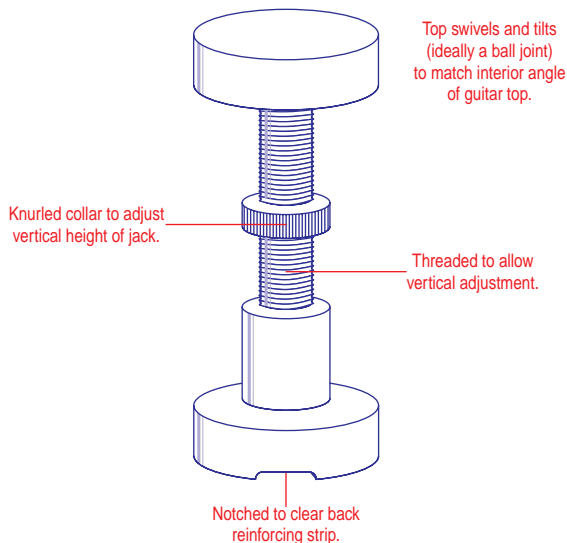

Figure 3 - JACK-Internal jack used to prevent movement of top during critical routing of saddle slot prior to pickup installation.
- Under string tension, lay a straightedge across the top behind the bridge. Measure the "belly up" of the top at the edges. This measurement will allow you to reproduce the efforts of string tension by placing a padded screw jack (Fig. 3) inside the instrument under the bridge plate and jacking the top up to this measurement. This step will help to ensure a flat bottomed slot when the guitar is strung up, as well as supporting the top and reducing flutter and excitement (yours and the guitar's) during machining.